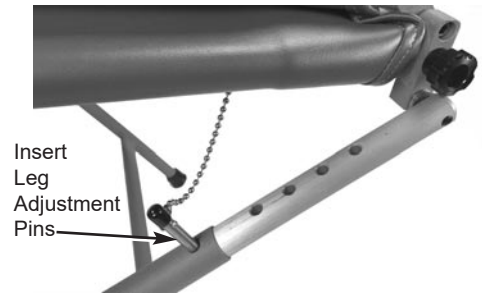

Figure 2 - Leg Adjustment Pin Placement
3. Standing in front of the chair, put your toe on one of the front chair legs and lift up on the backrest and front seat portion. Raise chair seat to desired height. Lock in place by inserting leg adjustment pins through chair leg tube and into adjustment link on the right and left side of the chair. (Fig. 2)